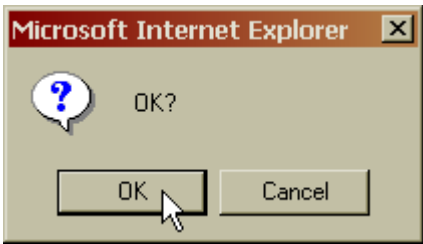

FIG. 259: OK MESSAGE BOX
Step 10. Click on the Save Settings button located at the bottom of the node address list. (See Fig. 258) An OK? message box appears. (See Fig. 259)